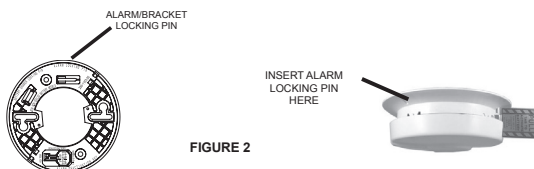

FIGURE 2
4. Insert the pin into the opening located in the base of the alarm (Figure 2)